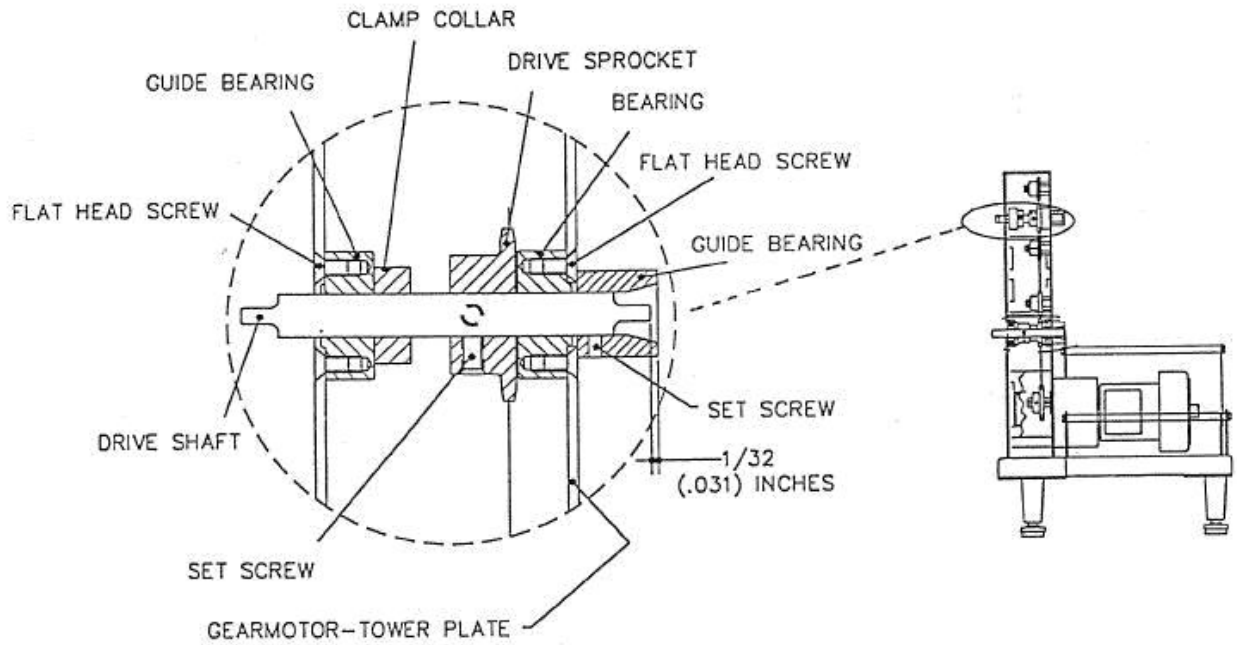

Figure 22
9.1.6.1 Batter Drive Shaft Service (Continued) (See Figure 22)